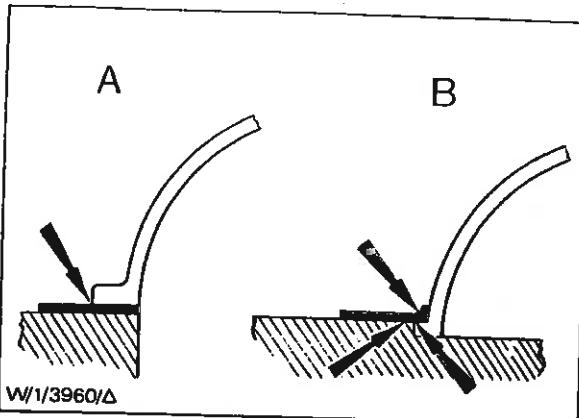

Fig. 68 - Oil Pan Gaskets and Seals Installation for All Engines Except 2728T
66. Position the rear seal, dry, onto the rear main bearing cap then apply a small spot of specified sealer into and from each foot as shown in Fig. 68.
68. Fit the front seal in position with the feet over the gaskets, then apply a spot of sealer to the joints where the front and rear seals adjoin the gaskets - see Fig. 68.